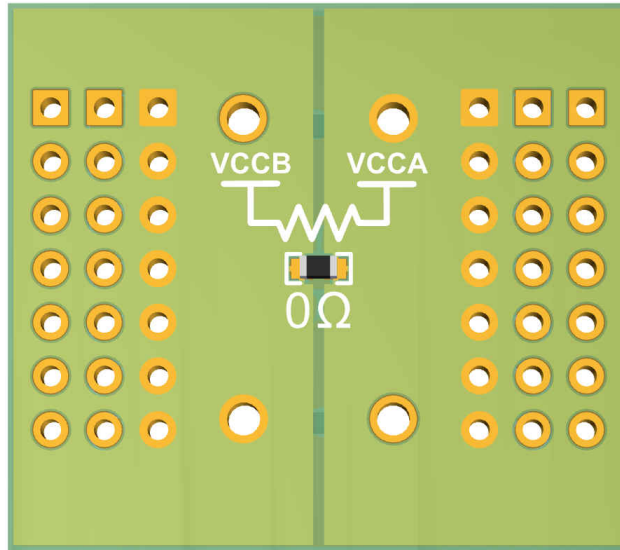

Figure 2-3. Single Supply Configuration
| Figure 2-3. Single Supply Configuration..... | 5 |
- Ensure the EVM is configured accordingly for dual supply or single supply device. The EVM comes default configured for dual supply devices, but is easily configured using a 0-Ω resistor for single supply devices. Figure 2-3 shows how this is done.